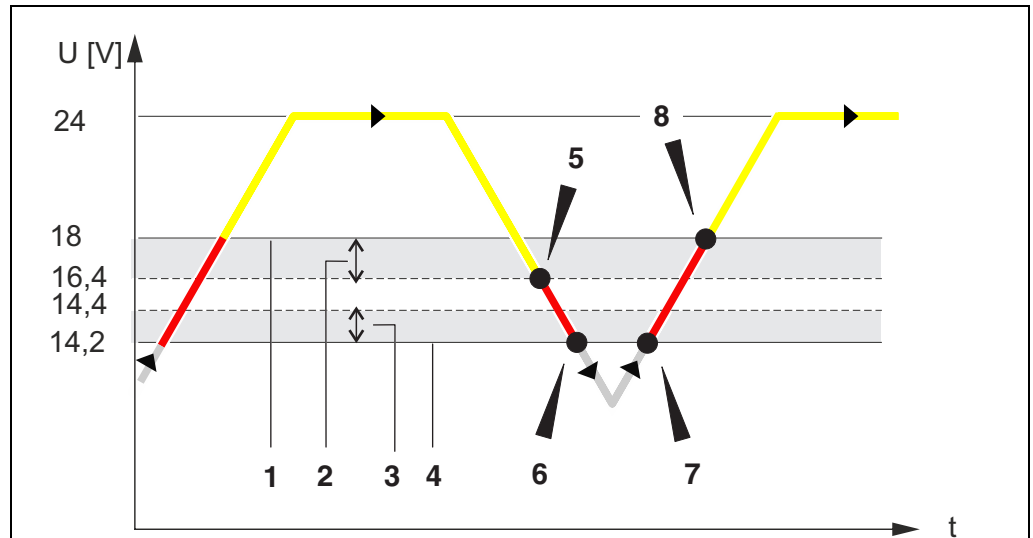

figure 10-1 Relationship of supply voltage - LED states - log book
**Internal voltage supply** Relationship between the supply voltage U, the LED status on the MIQ module and the log book entries (figure 10-1):